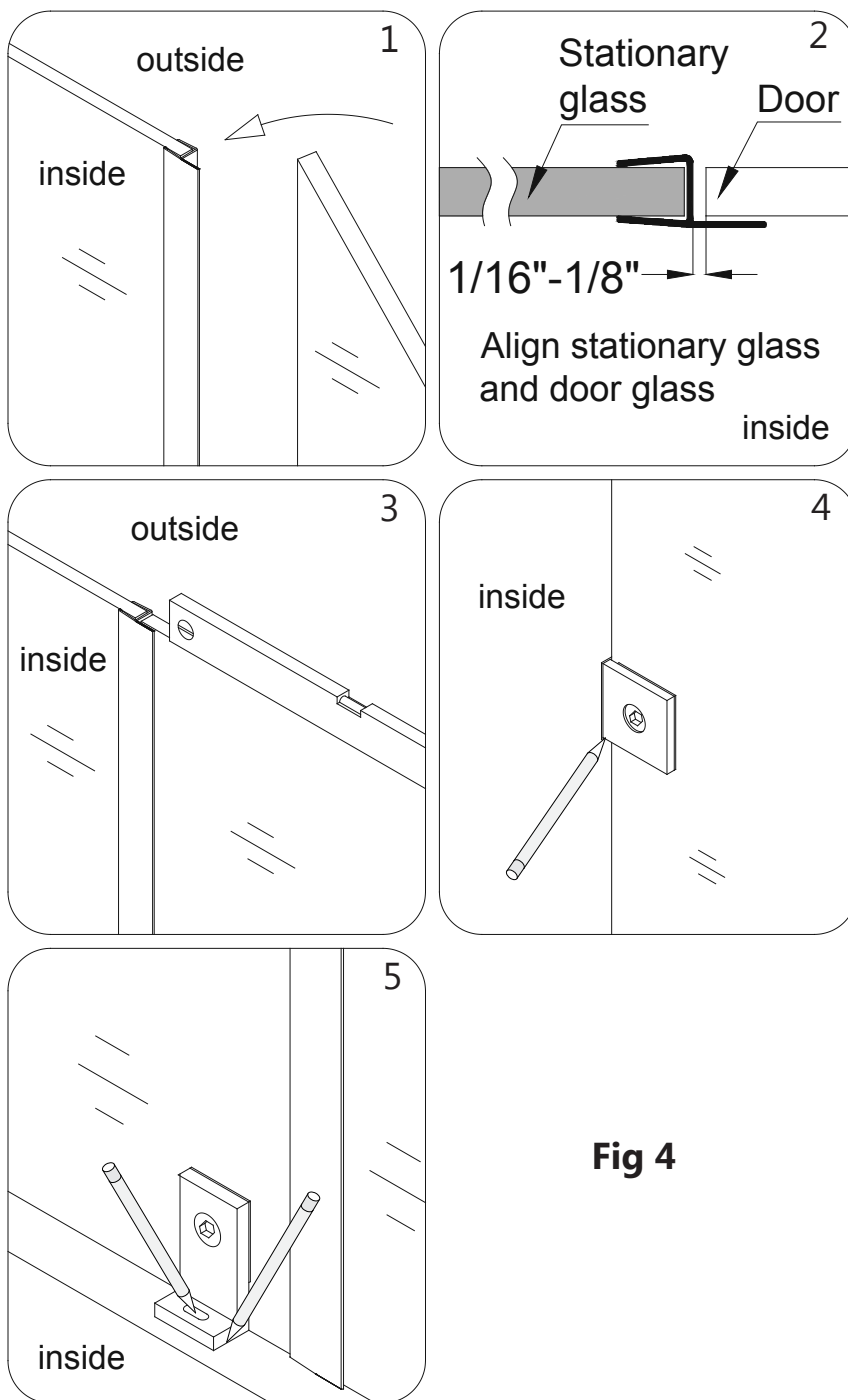

Fig 4
4. While securely holding the **Stationary Glass (#11)**, close the installed **Door Glass** and align the **Stationary Glass (#11)** to it. Use the door mark that was made in step #1 on the threshold as a reference to ensure that the **Door** is perpendicular to the wall. Adjust the position of the **Stationary Glass (#11)** so that the **Anti-Water Strip (inline panel) (#19)** makes tight contact to the **Door Glass** from top to bottom. **(Fig 4)**
5. Outline the position of the **Wall Brackets (#24)** on the wall from inside the shower. Mark the drilling hole of the **Bottom Bracket (#18)** on the shower base or threshold through the bracket hole. **(Fig 4)**